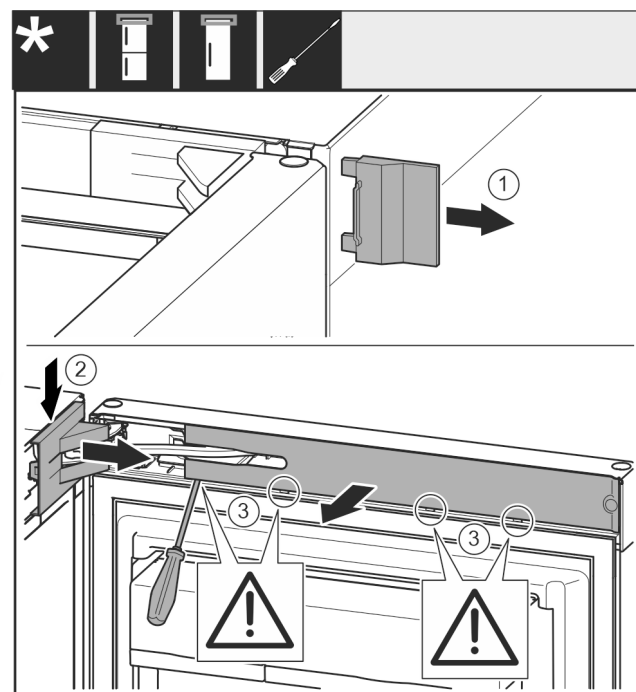

Fig. 10
- Remove the cover Fig. 10 (1).
- Snap out the swap bearing block cover Fig. 10 (2) and loosen it.
- Take off the swap bearing block cover Fig. 10 (2).
- Use a slotted screwdriver to snap out the faceplate Fig. 10 (3) and swivel it to the side.